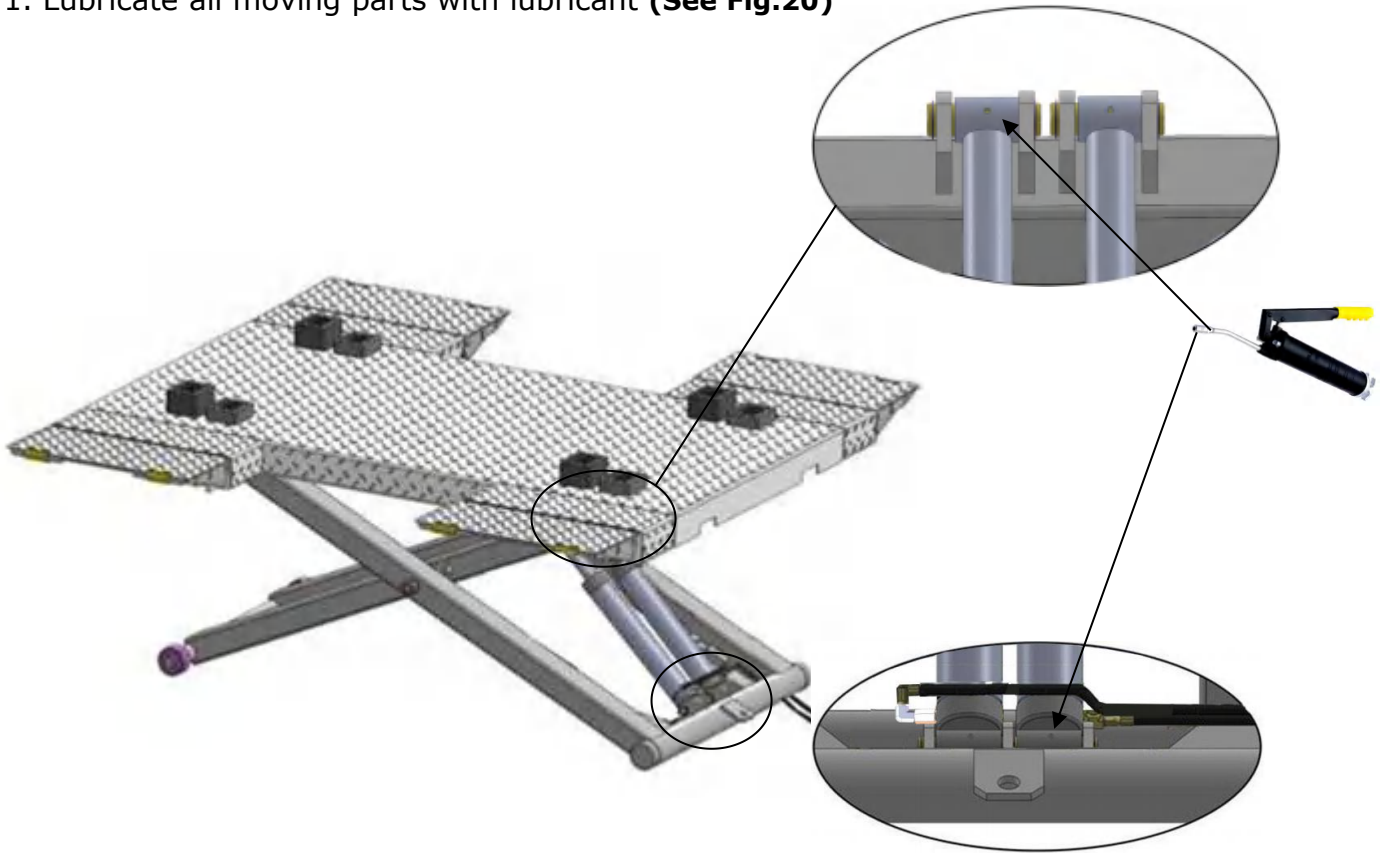

Fig. 20
1. Lubricate all moving parts with lubricant (**See Fig.20**)